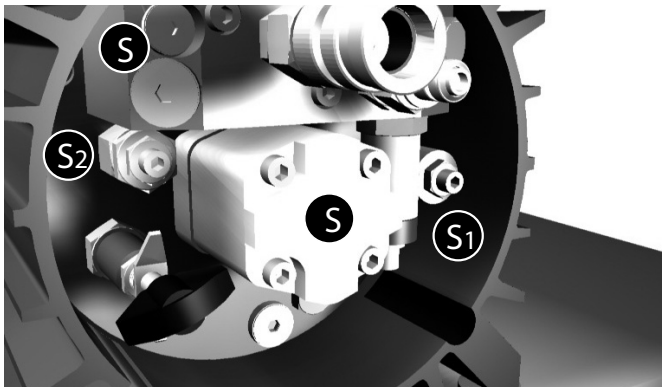

Abb. 1
Adjustment screws (S1 and S2, Fig. 1) or bolted connections (S) must not be turned or loosened. The bolted connections are protected by thread locker or sealing wire. Destruction of the sealing will lead to loss of warranty.